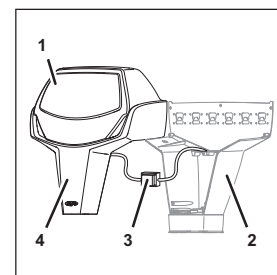

Fig. 27
2. Lift and remove the front panel (Fig. 27/4) with taxi cab hood (Fig. 27/1) from the rear panel (Fig. 27/2) in a forward motion.
3. Disconnect the electrical cables on the voltage transformer (Fig. 27/3).
19. Connect the electrical cables to the voltage transformer (Fig. 27/3).
20. Position the front panel (Fig. 27/4) with taxi cab hood (Fig. 27/1) on the rear panel (Fig. 27/2).